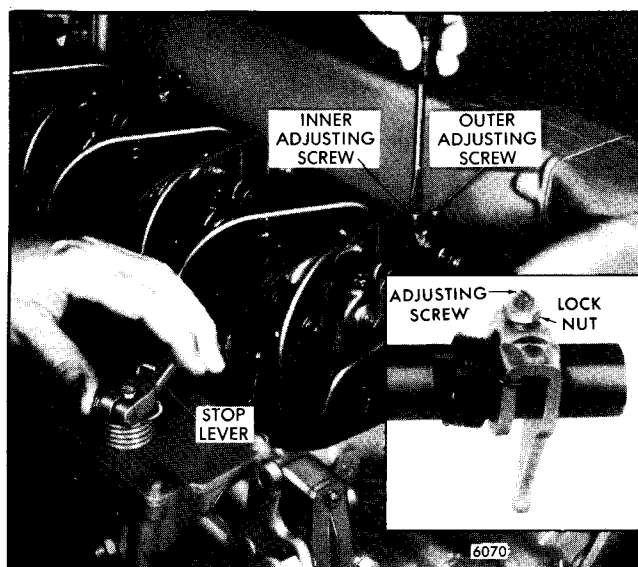

Fig. 2 - Positioning the Rear Injector Rack Control Lever
1. Loosen all of the inner and outer injector rack control lever adjusting screws or the adjusting screws and locknuts (Fig. 2). Be sure all of the levers are free on the injector control tube.